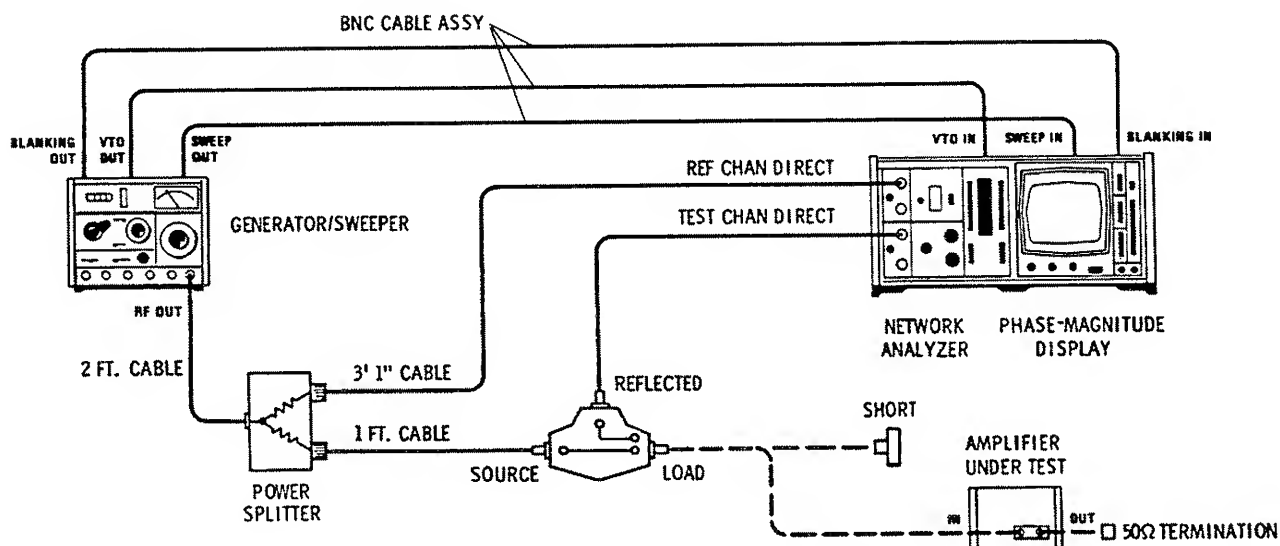

Figure 5. VSWR Test Setup: 1 to 110 MHz
1. Connect the equipment as shown in Figure 5. Set the generator/sweeper for a  $-10$  dBm signal, sweeping from 1 to 110 MHz.